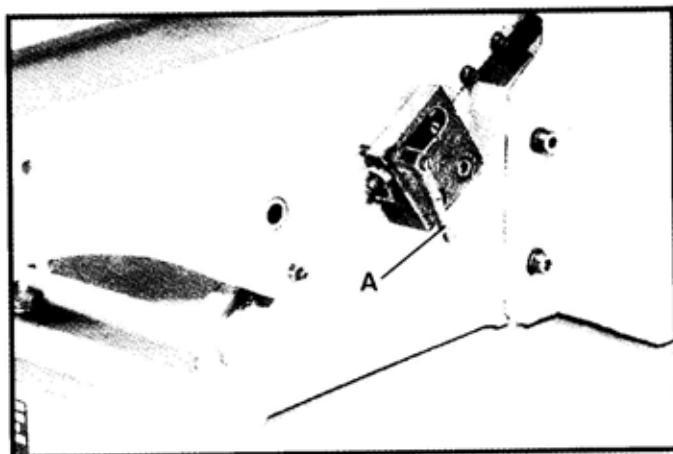
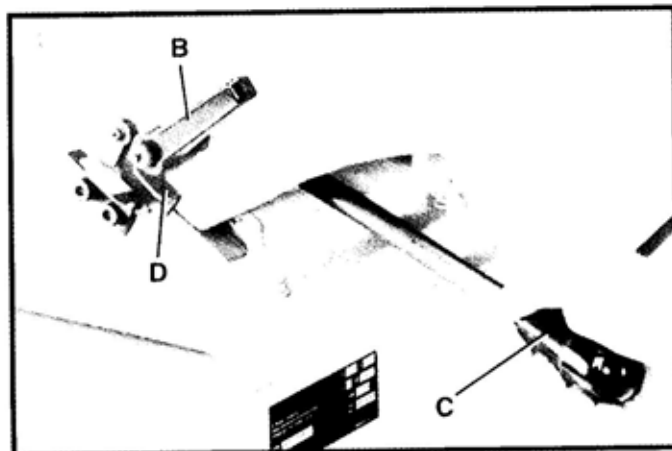
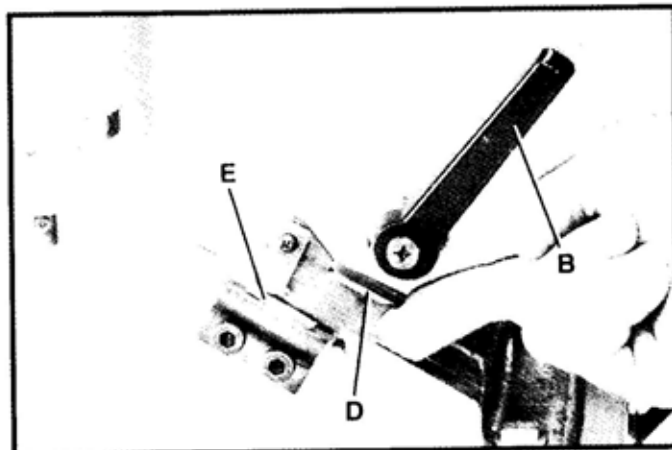

Fig. 35
Fig. 36
Fig. 37
1. To raise or lower the infeed table, loosen table locking handle (A) Fig. 35, which is located at the rear of the infeed table and loosen locking handle (B) Fig. 36, which is located at the front of the infeed table.
2. Raise or lower the infeed table adjustment lever (C) Fig. 36.
3. **IMPORTANT:** When lowering the infeed table, a depth stop (D) Fig. 36, will automatically stop the table at a $1/8"$ depth-of-cut. To move the table past this point, the depth stop (D) Fig. 37, must be raised, while simultaneously lowering the infeed table. Always make certain table locking handles (A) Fig. 35, and (B) Fig. 36, are tight before operating the jointer. The locking handles are springloaded and can be repositioned by pulling outward on the handle and repositioning it on the serrated nut located underneath the handle.
4. The depth-of-cut of the infeed table (position of the infeed table in relation to the cutting circle) is indicated on scale (E) Fig. 37. **NOTE:** Maximum depth-of-cut with this jointer is $1/2"$, which can be accomplished in cuts of $1/8"$ increments.